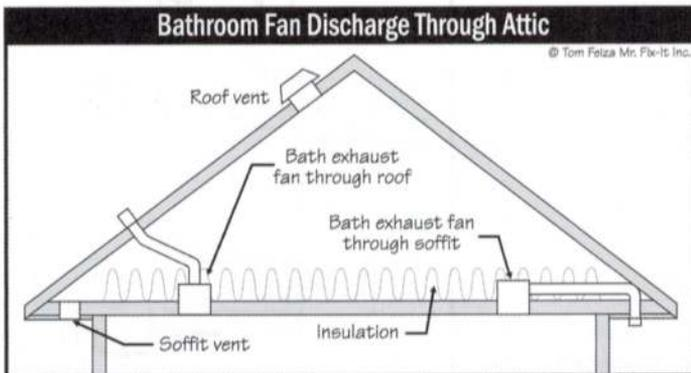

Figure 6
- Use ventilation fans in bathrooms. Add fans if you don't have them, and route the exhaust outside your home. After a shower or bath, run the fan until the room is dry. This may require adding a timer switch in place of the regular fan switch. See Figure 6.